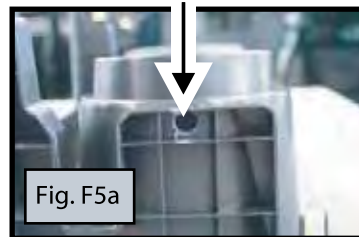

Fig. F5a
7. Using previously drilled hole as a guide, drill a 3/8" hole in the cup holder insert to allow light to pass through. A Unibit or step drill is recommended. (Fig. F5ab)